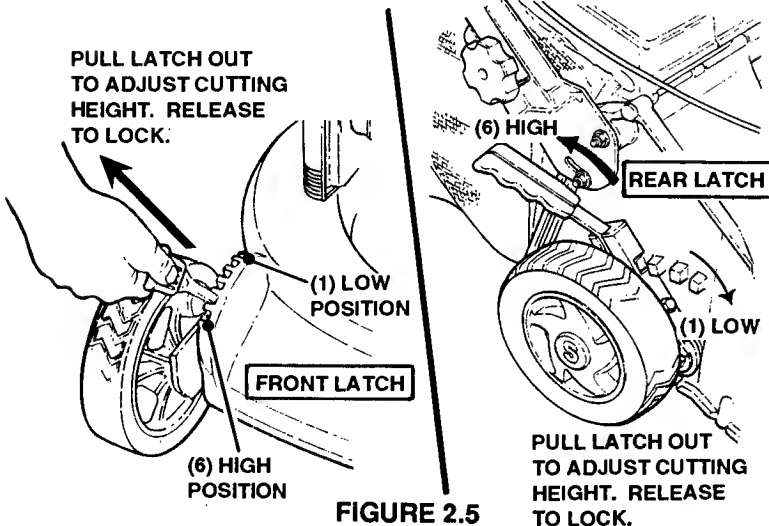

FIGURE 2.5
1. Pull the ADJUSTING LATCH out towards the wheel and move to desired notch. Move handle into notch to lock in position. See Figure 2.5.